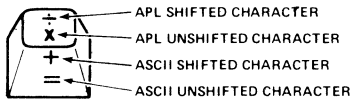
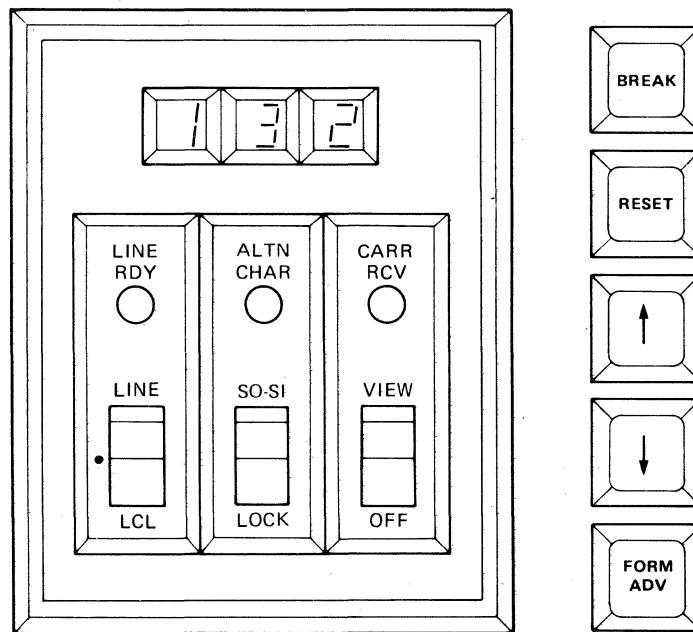

Figure 3-5. APL Keyboard
Figure 3-6. Control Panel, USASCII/APL Option
3.5.4 ALTERNATE CHARACTER SET - ASCII/APL. The optional APL keyboard shown in Figure 3-5 enables the terminal to transmit and receive both the standard ASCII and the APL characters. The SO-SI/LOCK switch and ALTN CHAR indicator shown in Figure 3-6 are added to the control panel with this option installed. The SO-SI/LOCK switch, in conjunction with the O, N, and CTRL keys and the control codes SI and S0, permit selection of either the APL or the ASCII mode. With the SO-SI/LOCK switch in the SO-SI position and the terminal in the LCL mode, APL mode is selected by pressing the N key while the CTRL key is pressed and held [which generates the control character SO (*shift out*)]. The ALTN CHAR (alternate character) indicator lamp will light to signify that the terminal is in the APL mode. The terminal may be switched to ASCII mode by pressing and holding the CTRL key and pressing the O key, which generates the control character SI (shift in) and causes the ALTN CHAR indicator lamp to extinguish.